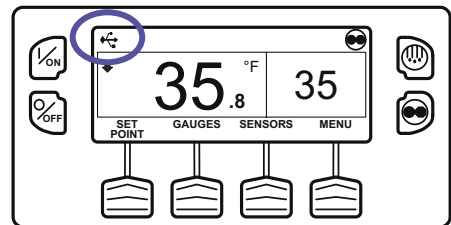

Figure 84: Flash Drive Icon
- The USB Icon (Figure 84) will appear in the upper left corner of the display as shown below when a USB Flash Drive is inserted into the Flash Drive Only USB Port on the Unit Control Panel.